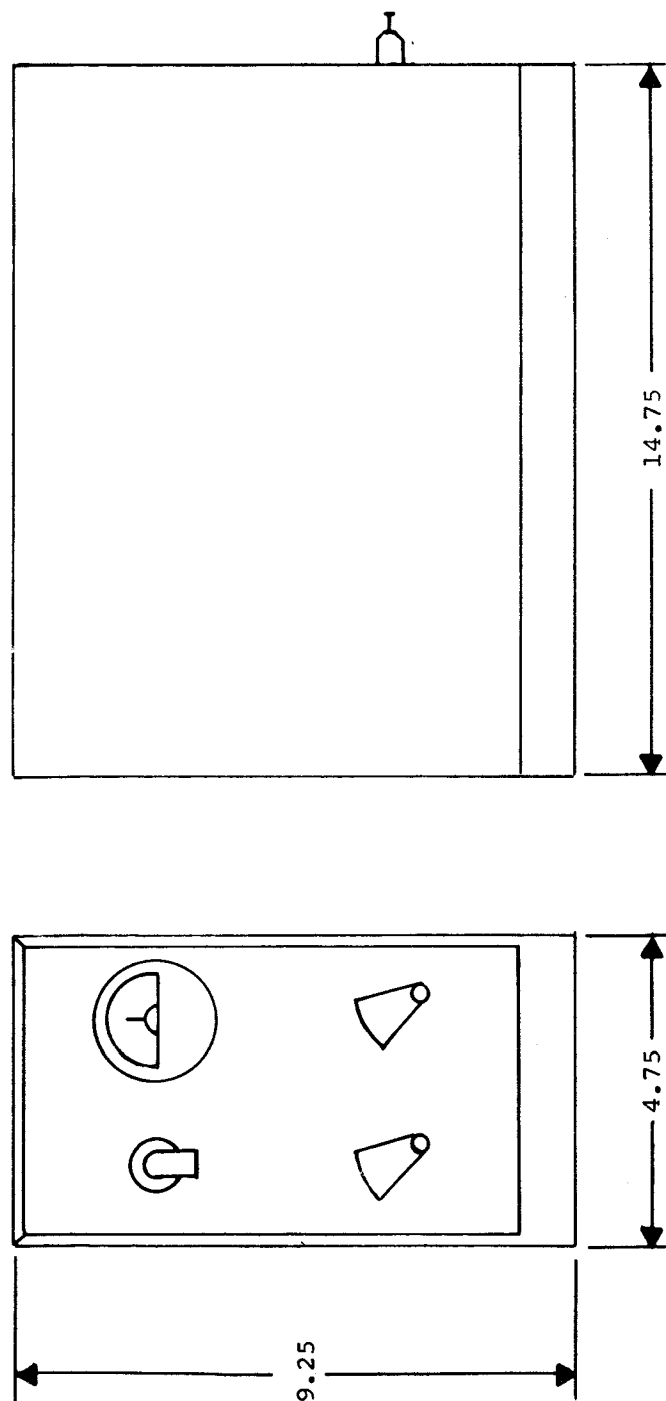

Figure 6-34 Antenna Coupler CU-1457/URC-58 (V)
a. TYPE/USE. - Antenna Coupler Group CU-1457/URC-58(V) is designed for use with the AN/URC-58(V) transceiver when the antenna feedpoint is located within close proximity to the basic equipment. The coupler consists of a single unit with controls and monitoring facilities to match the transmitter output to the impedance presented by the antenna system. The coupler is a unit of the AN/URC-58(V) but can be used with any transmitter or transceiver operating within the frequency range and power limitations of the coupler. The group may be used on ship or shore stations.
b. PHYSICAL CONFIGURATION. - See Figure 6-34.